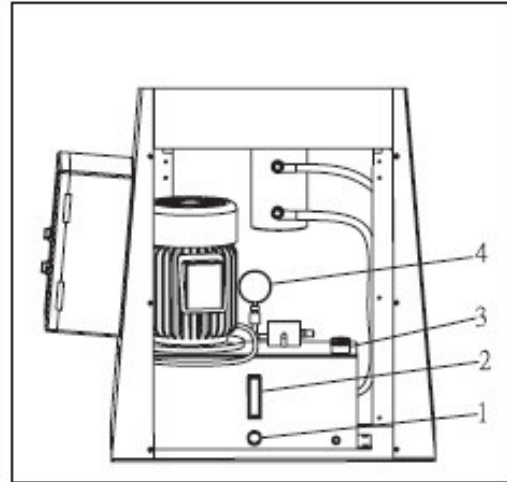

Fig. 11: Filling the oil tank
Step 6: Remove the front cover screws and front cover (Fig.11).
Step 7: Remove the plug 3 (Fig.11).
Step 8: Fill the hydraulic oil into the hydraulic oil circuit (approx. 20 litres) until the oil level reaches the 4/5 position of the oil level indicator 2 (Fig. 11).
Step 9: Check that the pressure gauge 4 (Fig. 11) is 150 kg/cm2(2100 psi).